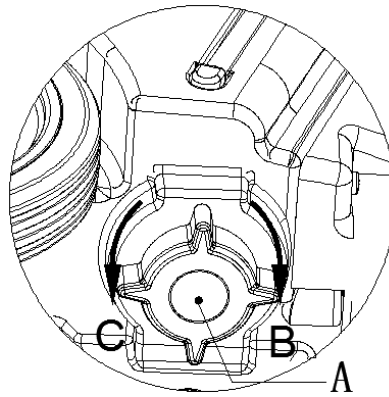

Figure 11
2. Unscrew the cap of clean water outlet (A, Figure 11) in Counterclockwise direction (C, Figure 11) to empty the solution tank.